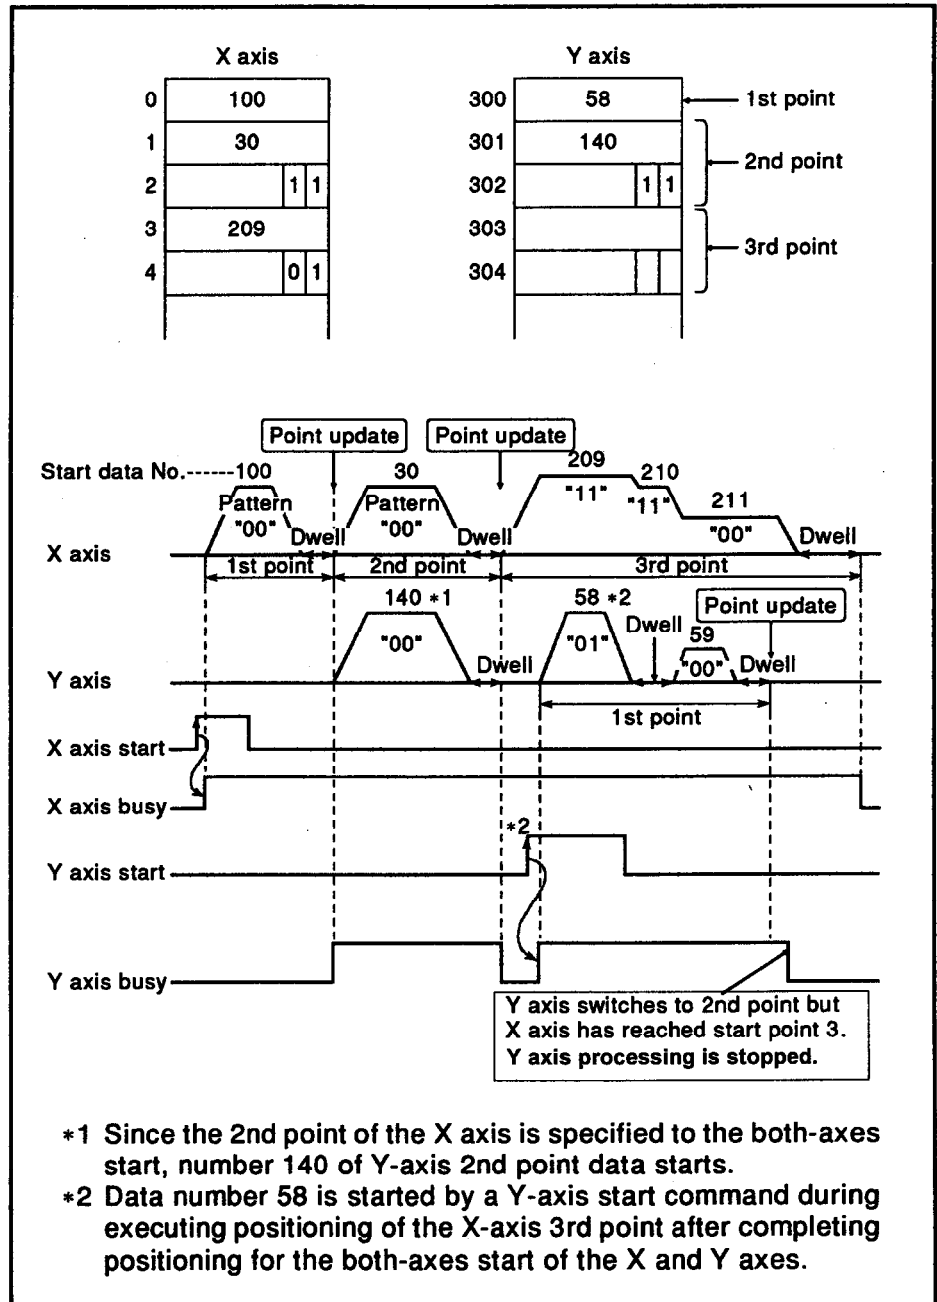

Fig. 3.37 Start Data Example 6
- Processing will stop if one axis proceeds ahead of the other and dual axis processing is called. See Fig. 3.37.